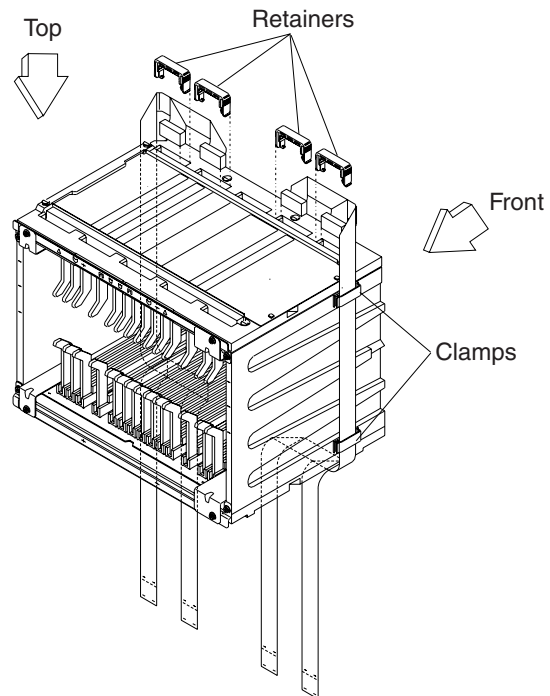

Figure 4-161. Upper View of the SAC Gate Assembly
8. Refer to Figure 4-161. Working from the front of frame 01, do the following:
3. Refer to Figure 4-161 on page 4-172. At the front side, do the following: